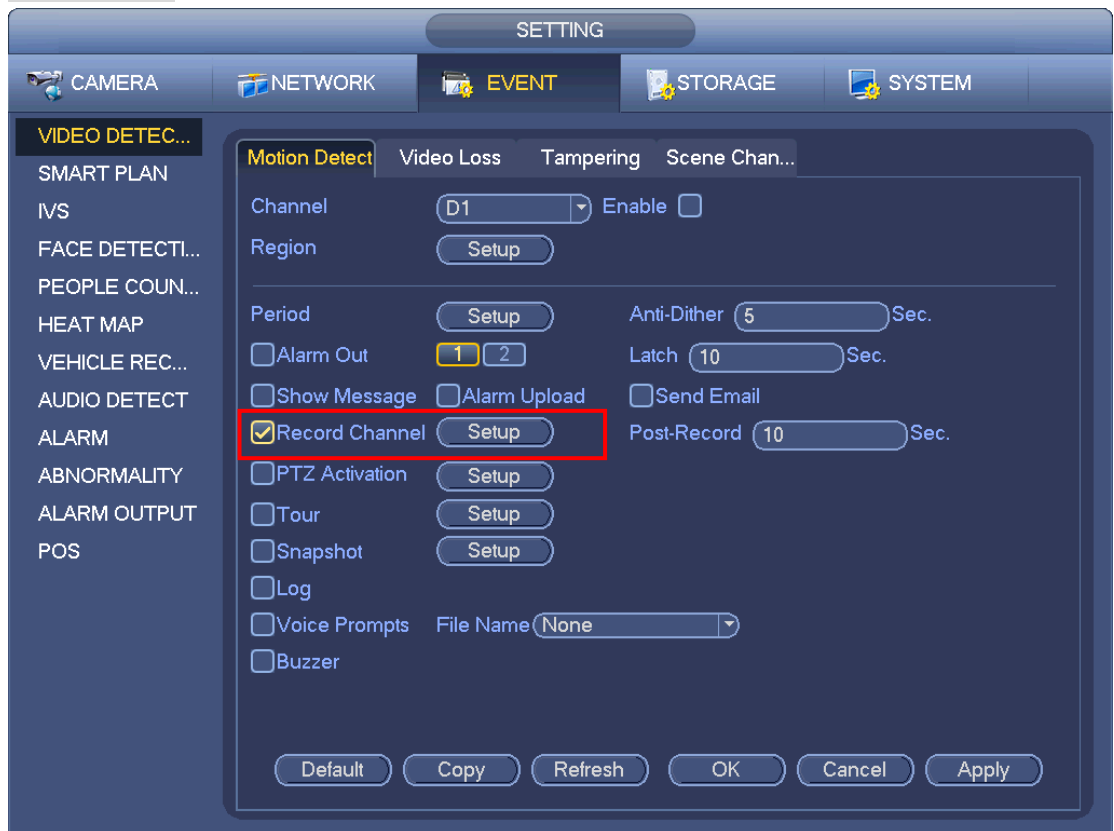

Figure 4-31
- When the record type is MD (motion detect), alarm, MD&Alarm, IVS and POS, please enable the channel record function when corresponding alarm occurs. For example, when the alarm type is MD, from main menu->Setting->Event->Video Detect->Motion Detect, please select the record channel and enable record function. See Figure 4-31.